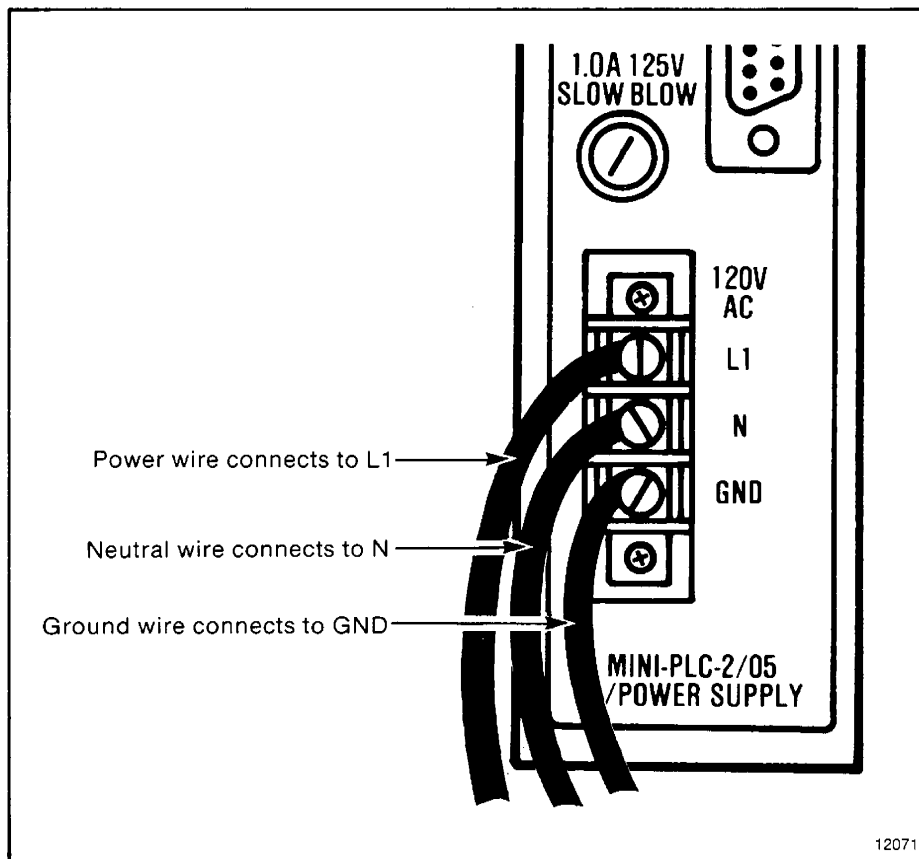

Figure 3.16 — Connect Your Power Cable to the 1772-LSP Processor's Terminal Strip
Step 2 — Loosen each terminal screw and place the appropriate wire under the terminal screw (figure 3.16).